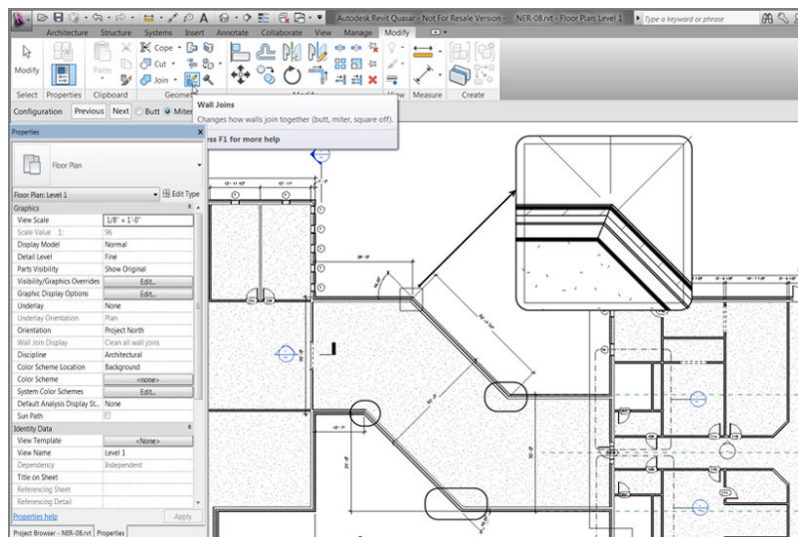

FIGURE 7.31: Modifying the walls' corners
2. Zoom in to the wall intersection, as shown in Figure 7.31.
3. On the Modify tab, click the Wall Joins button (see Figure 7.31).